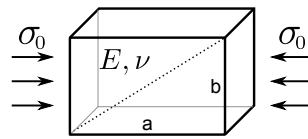

Figure 1: Box under uniaxial compression.
- (8 pts) Consider a 3D rectangular box, subject to uniaxial stress  $\sigma_0$  in the  $z$  direction, as shown in Fig. 1. The faces in the  $x, y$  directions are traction-free. The rest-lengths of the boxes sides are  $a, b$ . Calculate the slope of the dashed line as a function of  $\sigma_0, E$  and  $\nu$ . When  $\sigma_0 \geq E$  something weird happens. Is linear elasticity wrong?